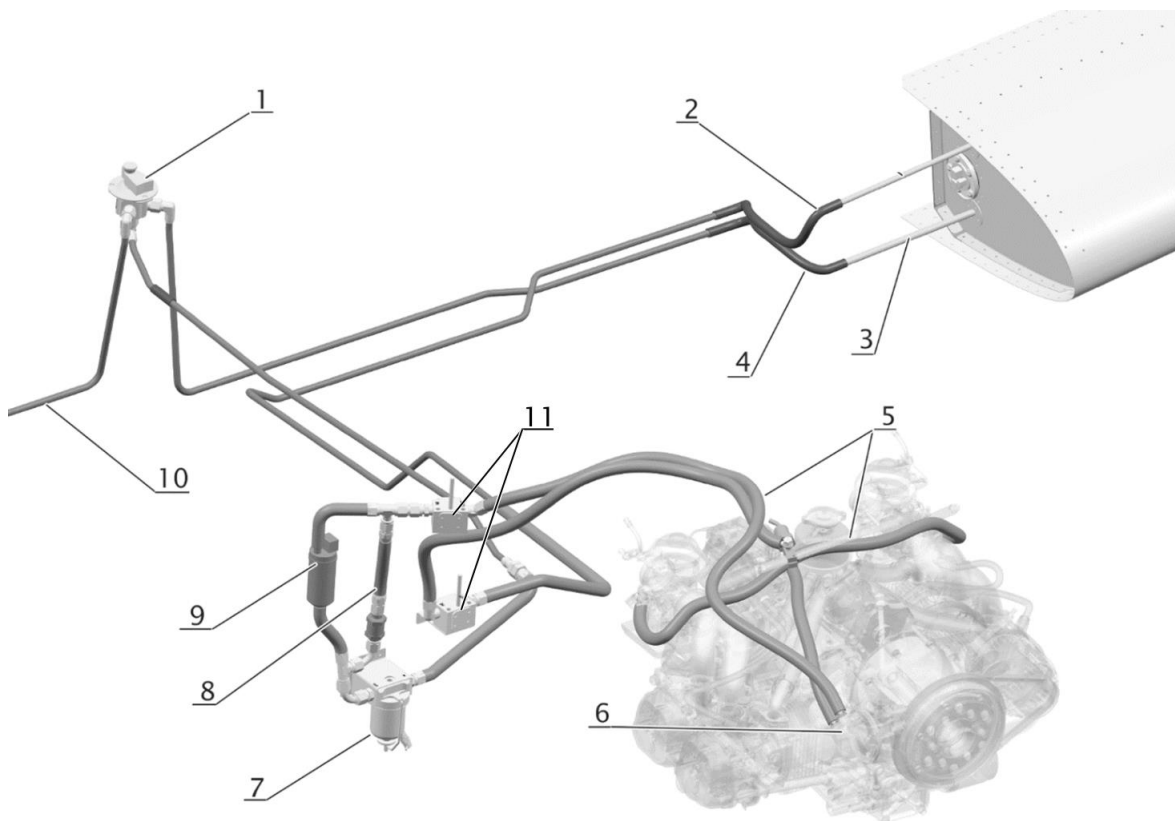

Figure 4 **Distribution**
Fuel flows from the tanks through the pick-up line (3, Figure 4) and fuel lines (4, 10) to the fuel selector valve (1) and from there to the gascolator (7), electrical fuel pump (9) to the mechanical fuel pump (6) located on the engine. From there it is supplied through the fuel distributor lines to carburetors. The fuel selector valve (1) works also for interruption of fuel supply in case of engine fire or for airplane long-time parking. The fuel selector is located on the middle console between the seats in the cockpit. The gascolator (7) is located on the firewall in lowest point of fuel system. The electrical fuel pump (9) is located on the firewall above the gascolator.